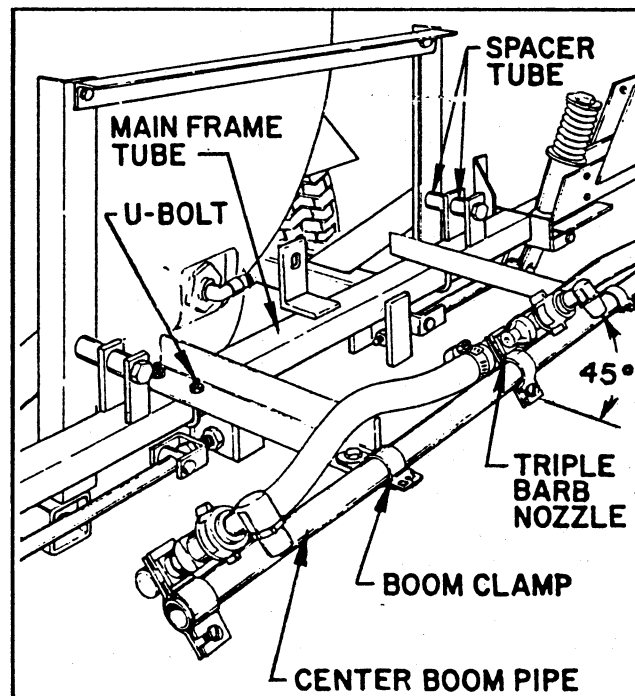

FIG. 6
■ Position the Spacer Tubes between the Boom Mount uprights and the lugs on the Main Frame Tube. Use two 1/2" x 4" hex hd cap screws and lock nuts to secure the Main Frame Tube to the uprights. See FIG. 6.
■ Position the two Center Boom Angles on the Main Frame Tube as shown in FIG. 6 and secure them to the Frame Tube with "U"-bolts and lock nuts.
■ Loosely attach the triple barb Nozzle Assembly in the approximate center of the Center Boom Pipe. For the most uniform spray coverage, position all Nozzle Assemblies at a 45° angle as shown in FIG. 6. Tighten clamp screw to secure the Nozzle to the Boom Pipe.